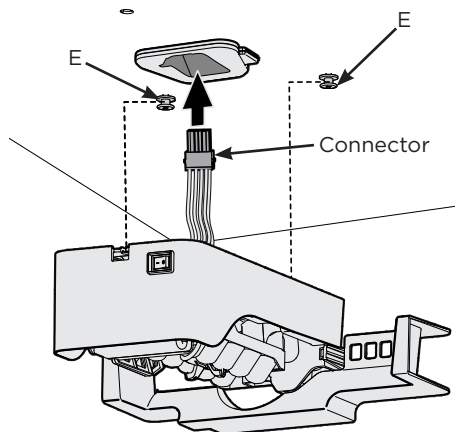

Figure 2
6. Push the ice maker and bracket assembly toward the rear of the freezer compartment to seat the keyhole slots firmly onto the shoulder screws (See Figure 2).